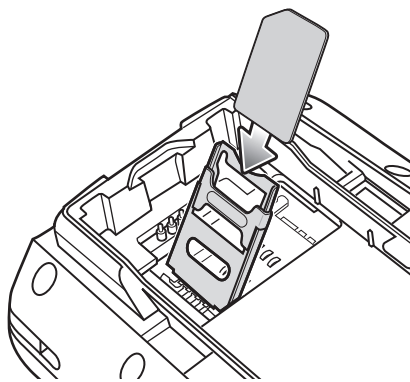

Figure 5-2 *Inserting the SIM Card*
6. Insert the SIM card, as shown in Figure 5-2, with the cut edge of the card facing out and the contacts facing down.